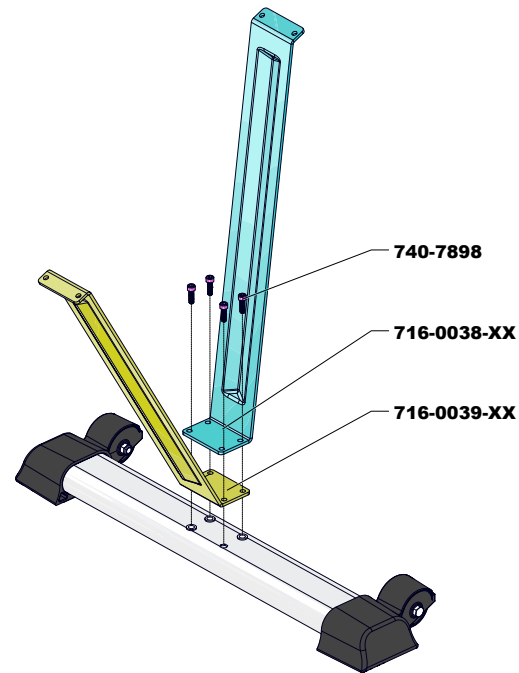

Fig. 4
3. Ensure that the transport wheels are facing the front the unit then use a torque wrench with a 5mm allen socket to secure the front support assembly built in Fig. 4 to the underside of the front half of the HIIT Rower using four (4) pieces of the M6 x 20mm socket head cap screw (740-7898).